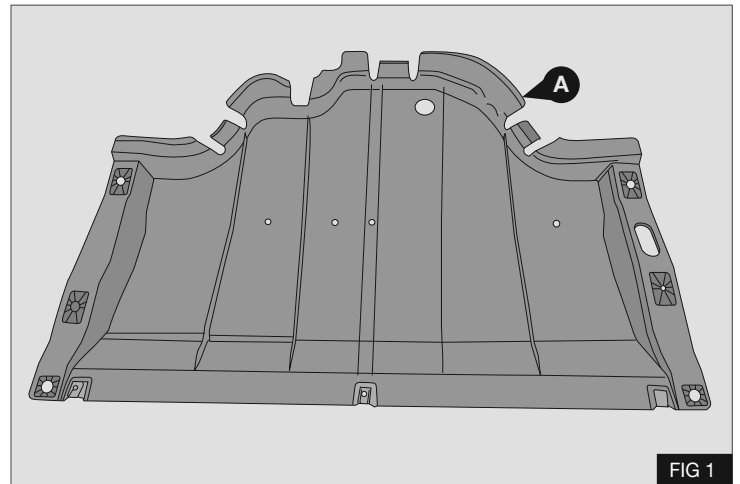

FIG 1
1. Engine under panel (A) - Fig 1